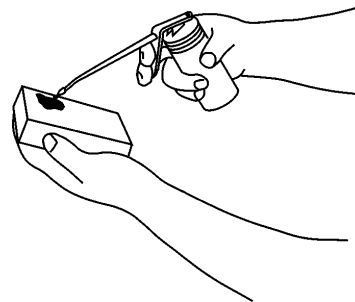

Figure 23
5. Apply one tablespoon of SAE 30W oil to the air filter (Fig. 23).